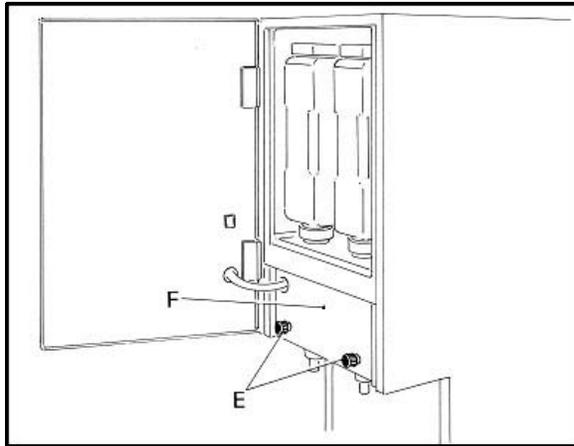

FIGURE 12
4. Loosen the knobs (E) and remove cover (F), see FIGURE 12.